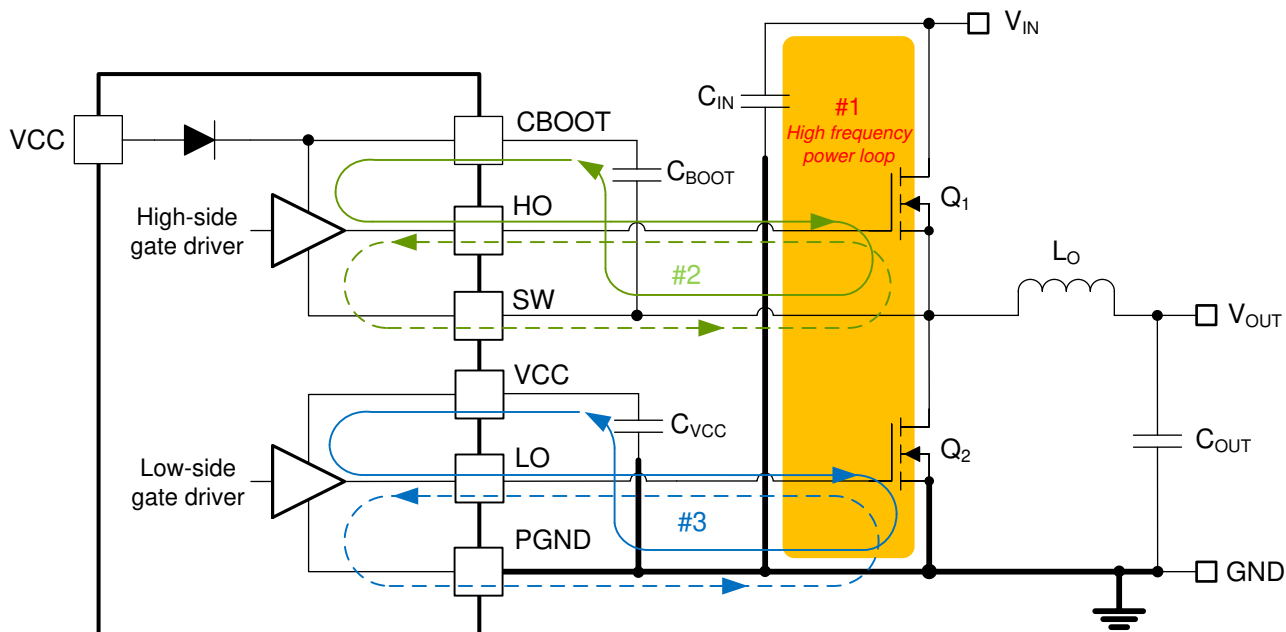

Figure 9-46. DC/DC Regulator Ground System With Power Stage and Gate Drive Circuit Switching Loops
Proper PCB design and layout is important in a high-current, fast-switching circuit (with high current and voltage slew rates) to achieve a robust and reliable design. As expected, certain issues must be considered before designing a PCB layout using the LM5148. The high-frequency power loop of a buck regulator power stage is denoted by loop 1 in the shaded area of Figure 9-46. The topological architecture of a buck regulator means that particularly high di/dt current flows in the components of loop 1, and it becomes mandatory to reduce the parasitic inductance of this loop by minimizing its effective loop area. Also important are the gate drive loops of the high-side and low-side MOSFETs, denoted by 2 and 3, respectively, in Figure 9-46.
- Loop 1: The most important loop area to minimize is the path from the input capacitor or capacitors through the high- and low-side MOSFETs, and back to the capacitor or capacitors through the ground connection. Connect the input capacitor or capacitors negative terminal close to the source of the low-side MOSFET (at ground). Similarly, connect the input capacitor or capacitors positive terminal close to the drain of the high-side MOSFET (at VIN). Refer to loop 1 of Figure 9-46.
- The SW pin connects to the switch node of the power conversion stage and acts as the return path for the high-side gate driver. The parasitic inductance inherent to loop 1 in Figure 9-46 and the output capacitance (C_{OSS}) of both power MOSFETs form a resonant circuit that induces high frequency (greater than 50 MHz) ringing at the SW node. The voltage peak of this ringing, if not controlled, can be significantly higher than the input voltage. Make sure that the peak ringing amplitude does not exceed the absolute maximum rating limit for the SW pin. In many cases, a series resistor and capacitor snubber network connected from the SW node to GND damps the ringing and decreases the peak amplitude. Provide provisions for snubber network
- Loop 2: high-side MOSFET, Q_1 . During the high-side MOSFET turnon, high current flows from the bootstrap (boot) capacitor through the gate driver and high-side MOSFET, and back to the negative terminal of the boot capacitor through the SW connection. Conversely, to turn off the high-side MOSFET, high current flows from the gate of the high-side MOSFET through the gate driver and SW, and back to the source of the high-side MOSFET through the SW trace. Refer to loop 2 of Figure 9-46.
- Loop 3: low-side MOSFET, Q_2 . During the low-side MOSFET turnon, high current flows from the VCC decoupling capacitor through the gate driver and low-side MOSFET, and back to the negative terminal of the capacitor through ground. Conversely, to turn off the low-side MOSFET, high current flows from the gate of the low-side MOSFET through the gate driver and GND, and back to the source of the low-side MOSFET through ground. Refer to loop 3 of Figure 9-46.